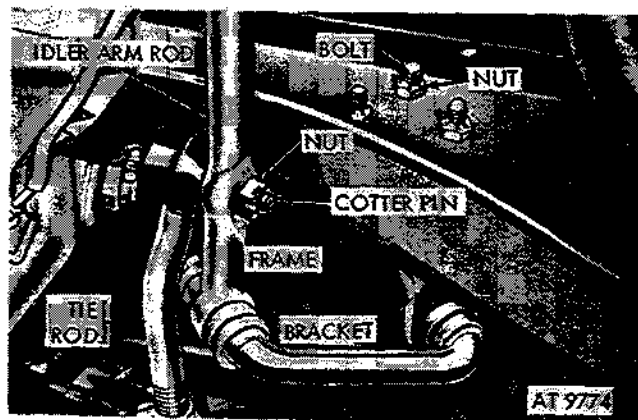

Figure 2-353. Remove right tie rod from idler arm rod.
(3) Remove cotter pin and nut securing right tie rod to idler arm rod (fig. 2-353). Remove tie-rod ball stud from idler arm rod.
(4) Remove three nuts and bolts securing idler arm bracket to frame (fig. 2-353).
(5) Unscrew (clockwise) idler arm bracket from idler arm. Unscrew (clockwise) idler arm from idler arm rod (M151, M151A1, M151A1C and M718 only) (para 2-163).
(6) Remove idler arm rod (M151, M151A1, M151A1C and M718) or link and idler assembly (M151A2, M825, and M718A1).
(1) Remove three bolts and nuts securing idler arm bracket to frame (see fig. 2-353).